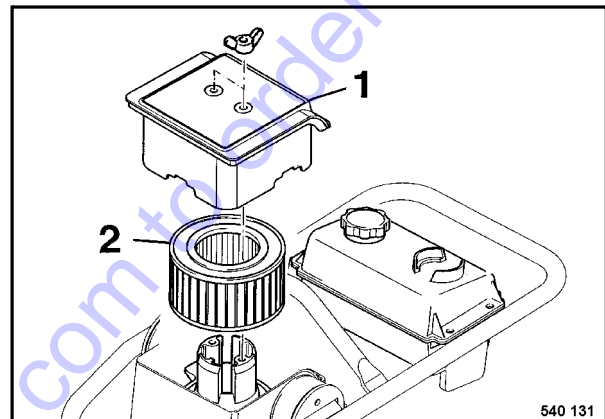

Fig. 4
- Remove the cover 1 (Fig. 4), take the filter cartridge (2) carefully out.